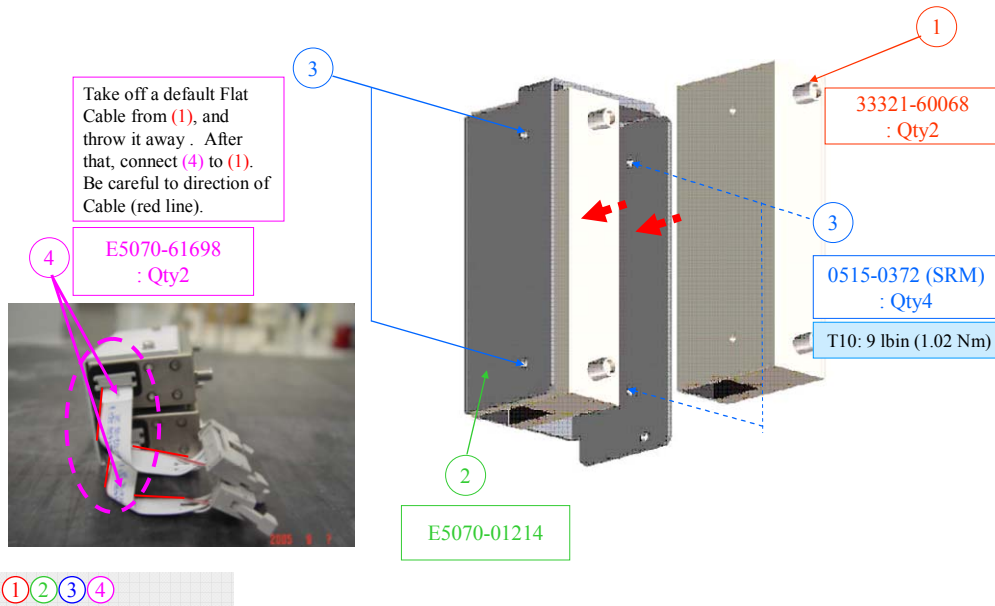

Figure 8 Make A7 attenuator assembly (for option 313, 314, 413, 414)
12. Make new A7 attenuator module by 33321-60068 (2ea), E5070-61698 (2ea), E5070-61618 (1ea), 0515-0372 (2ea) and E5070-01214 (1ea). Scrap 33321-60059, E5070-01213 and E5070-61617. Refer to Figure 8 for the detail.